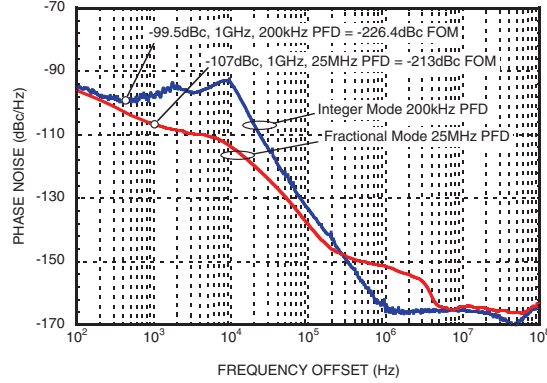

Figure 3.
The HMC700LP4(E) is targeted for ultra low phase noise applications with an external VCO. The synthesizer charge pump can operate with the charge pump supply as high as 5.5 Volts. The charge pump output at the varactor tuning port, normally can maintain low noise performance to within 500mV of either ground or the upper supply voltage (see example \(figure 3\))